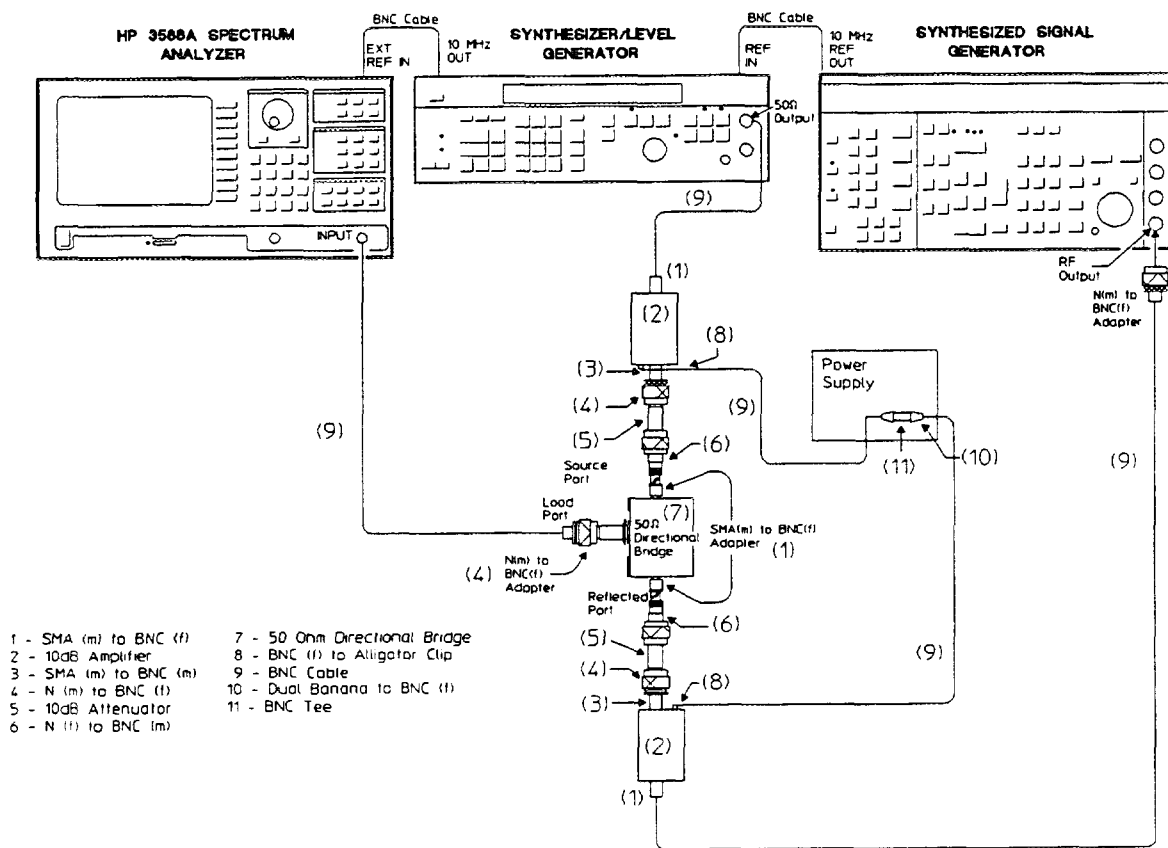

Figure 3-5. Intermodulation Distortion Setup
- SMA(m)-to-BNC(f) Adapters (4)
- BNC Cables (7)
- BNC to Alligator Clip (2)
- N(f)-to-BNC(m) Adapters (2)
- 10 dB Amplifiers (2)
- 10 dB Attenuators (2)
1. Connect the test equipment as shown in figure 3-5.